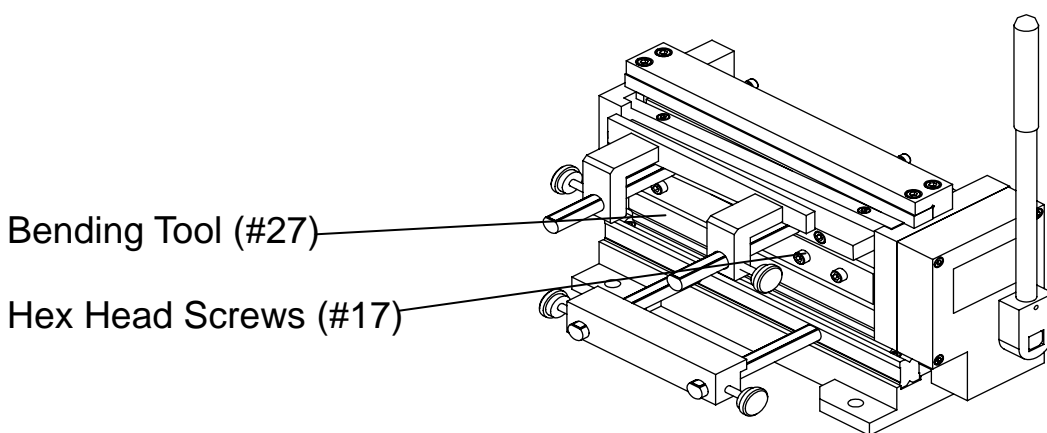

Figure 3 – Bending Tool Removal
Step 2: Remove any unneeded BENDING TOOL fingers by sliding them out the left of the Shear/Brake as shown in figure 3.